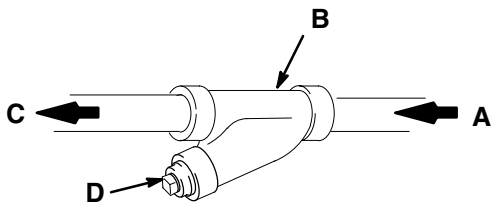

Fig. 4
1. Use a Y-type line strainer in oil supply lines. Locate as close to the meter inlets as practical and where they are easily accessible. Mount the strainer body horizontally with the clean-out plug pointed down. See Fig. 4. Periodically, **relieve the pressure**, and remove and clean the metal strainers.